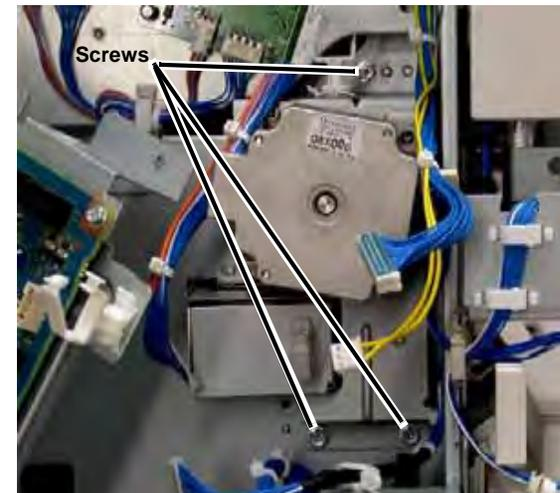

Figure 3 Removing Screws
5. Remove the Screws (3) and the Takeaway Motor (Figure 3).